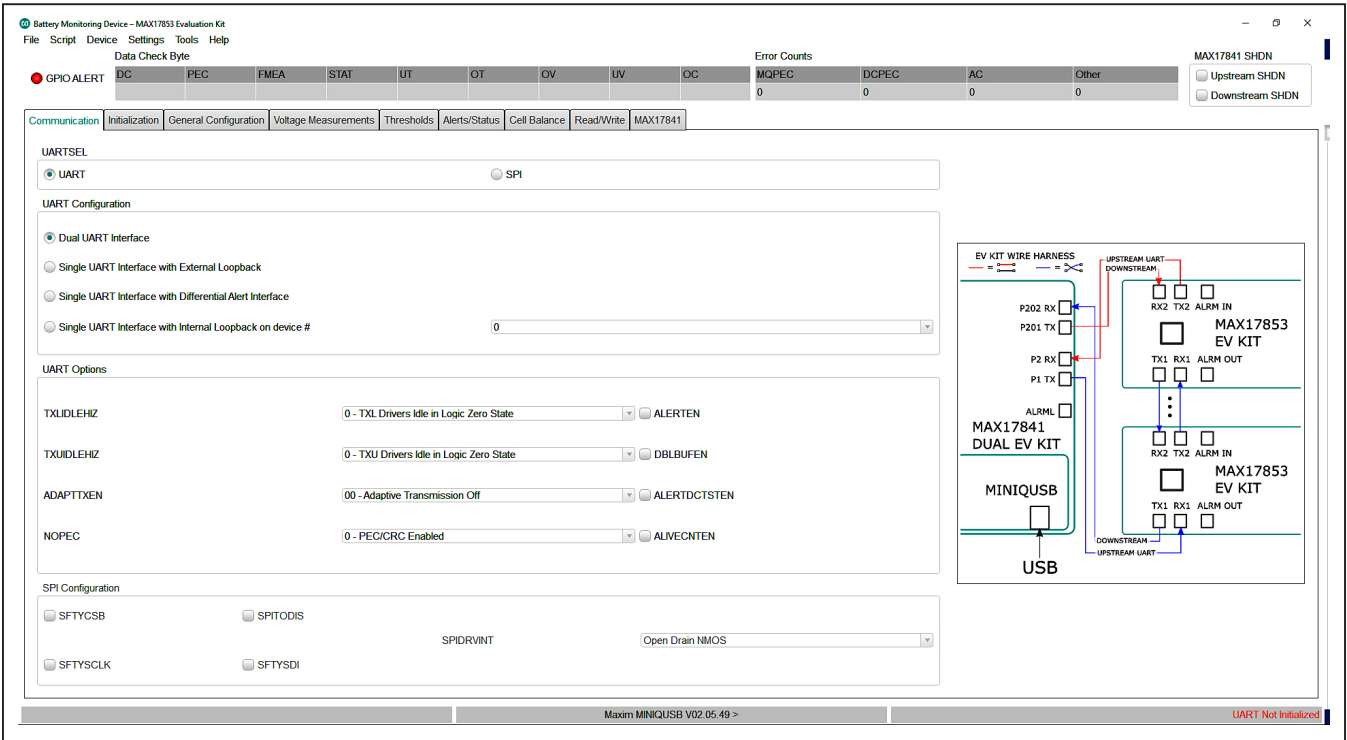

Figure 8. Communication Tab
- 12) Start the MAX17852 EV kit software by opening its icon in the Start Programs menu. The EV kit GUI software automatically establishes communication with the Maxim MINIQUSB+ interface. The status bar at the bottom of the GUI displays **Maxim MINIQUSB+ V02.05.xx** and **UART Not Initialized** (see Figure 8). With the MINIQUSB detected, the user can proceed to the next step.
- 13) In the **Communication** tab (Figure 8), click on the **Single UART with External Loopback** radio button.
The GUI startup cockpit is designed to guide the user through hardware setup and provides overall startup system information. At startup, the GUI automatically initializes and establishes communication with the Maxim MINIQUSB+ interface board and places the user on the **Communication** tab (see Figure 8). UART status is shown in the lower-right corner of the cockpit.
The GUI is preset to UART communication with a dual UART interface (see Figure 8). When selecting the UART configuration, the hardware graphic updates to reflect the
Located in the **Communication** tab (Figure 8) is the **UART Options** group box. Options set in the **UART Options** group box control TXL and TXU idle state impedance, adaptive transmission setting, and packet error check (PEC). The user can also enable and evaluate the alert function, double-buffer feature, UART DC diagnostic test, and control the alive-counter bit (ALIVECNTEN).